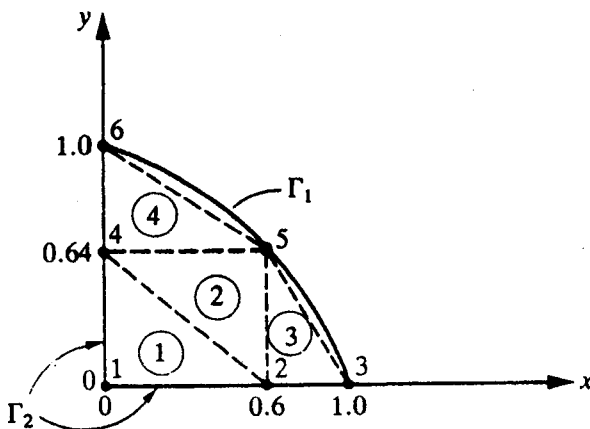

Fig. 4
b) The Poisson equation  $\frac{\partial^2 u}{\partial x^2} + \frac{\partial^2 u}{\partial y^2} = 2$  is valid in the domain with boundary conditions  $u=0$  on  $\Gamma_1$  and  $\frac{\partial u}{\partial n} = 0$  on  $\Gamma_2$  as shown in Fig. 4. Derive the element equation for a 3-node triangle from the weak form of the above equation using the Galerkin procedure. Now compute the stiffness matrix of element 2 of the shown mesh and position its elements in the global stiffness matrix. Connectivity may be taken as 5-4-2. [2+12=14]